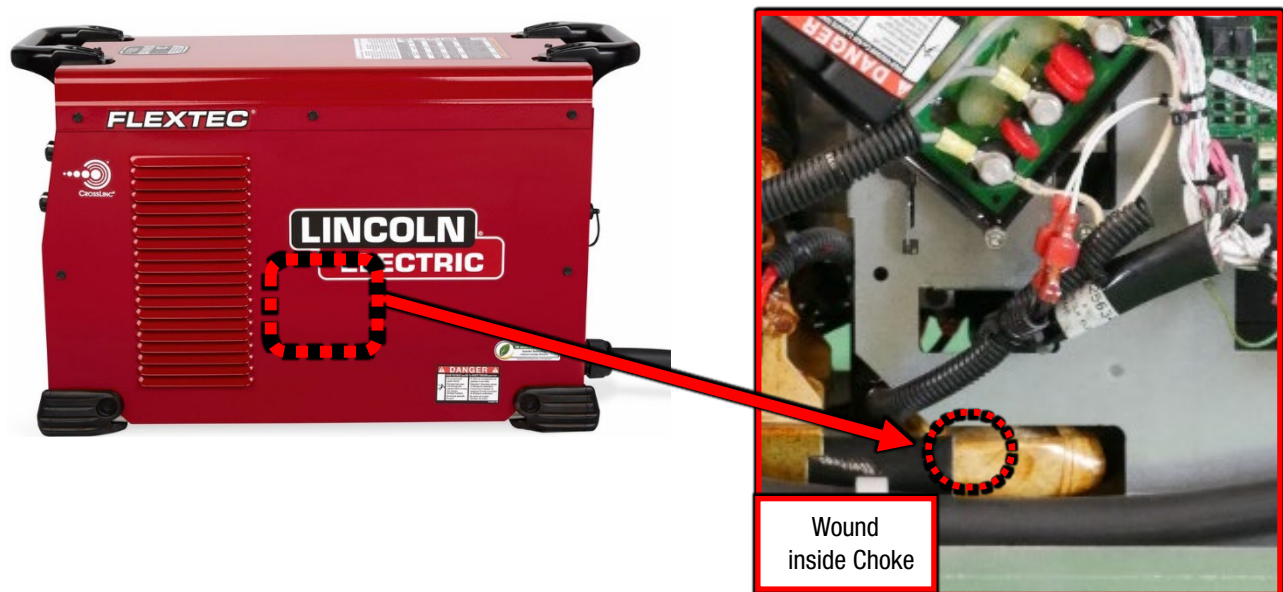

Figure F.1
1. For location of Thermostat 2 refer to Figure F.1.